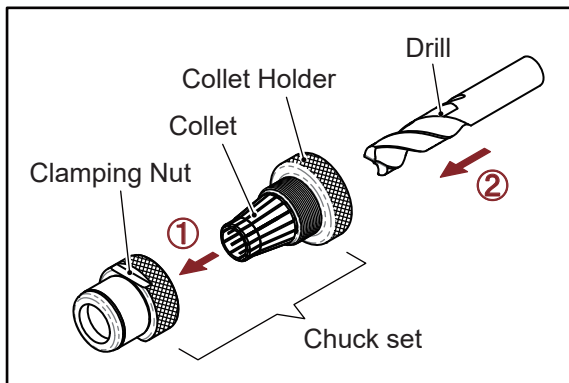
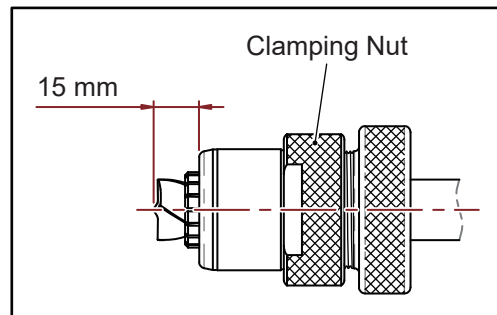

Fig. 5-2
Fig. 5-3
3. Screw in a little bit by clamping nut (Fig. 5-2 step ①), then insert the drill through the collet holder (Fig. 5-2 step ②), and push in until the drill is out of the clamping nut about 15 mm. (Fig. 5-3)